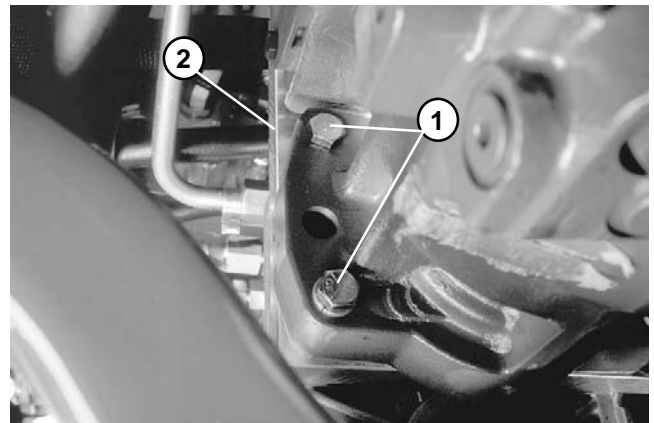

Figure 36
8. Support the transmission to prevent it from falling while carefully removing four (4) cap screws and locknuts retaining transmission to support plate. Carefully pull transmission off of support plate and lower it out of the machine (Fig. 36 and 37).
5. Carefully position transmission to the support plate while raising it into the machine. Support transmission to prevent it from falling while carefully installing four (4) cap screws and locknuts securing transmission to support plate. (Fig. 36 and 37).